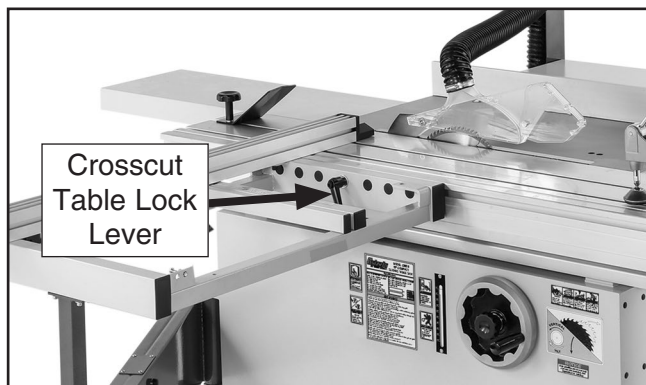

Figure 99. Location of crosscut table lock lever.
3. Loosen crosscut table lock lever shown in **Figure 99**.